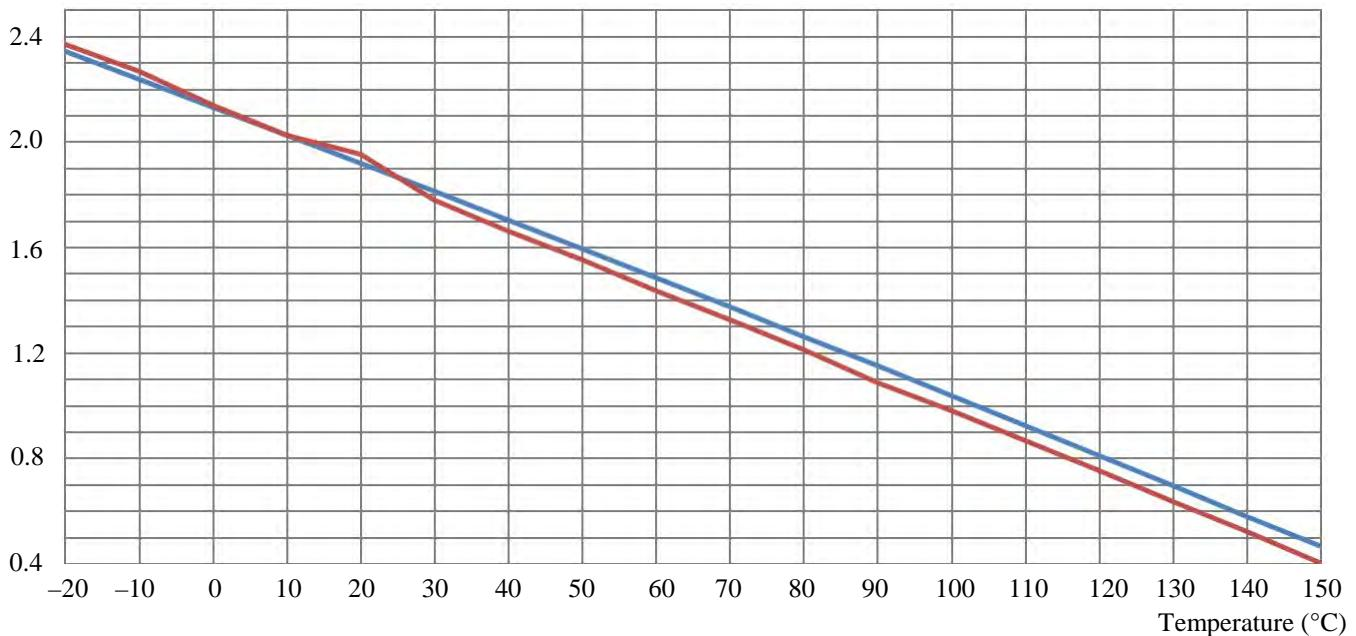

Figure 18. Controller Internal Temperature vs. TMPO Voltage
Within the most commonly used temperature range of between $0^\circ C$ to $100^\circ C$, the approximated data obtained by using the linear equation (1), The curves of the 2 sets of the data are plotted in Figure 18.